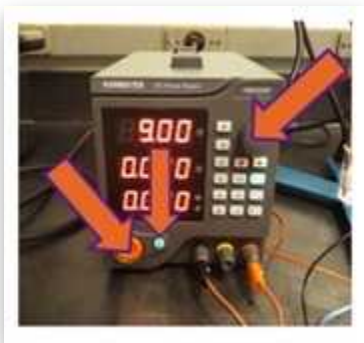

Figure 7C
- Set a constant voltage of power supply to 9 V by turning the gray nob (shown in *figure 7C*).
- h. Turn on the power supply by pushing the big orange button. Then, push the small button (shown in *figure 7C*).